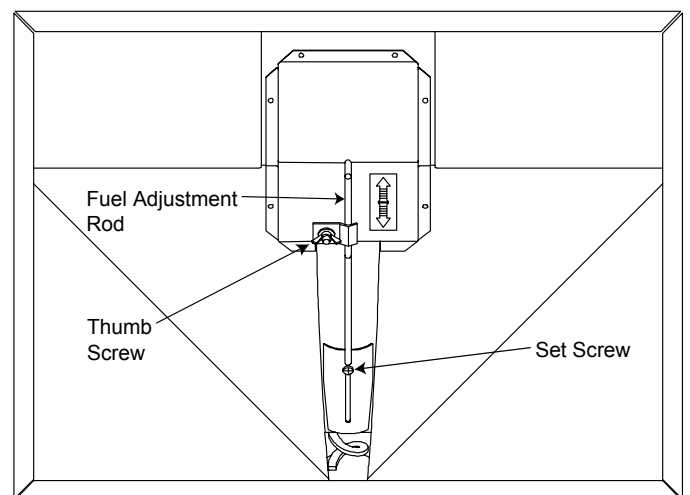

Figure 24.1
1. Loosen the thumb screw. **Figure 24.1**